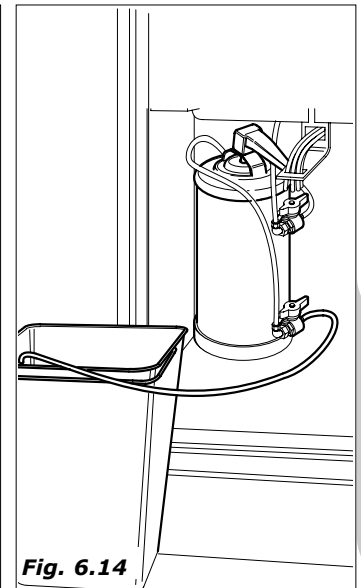

Fig. 6.14
- Let the water flow until it is clear (Fig. 6.14).